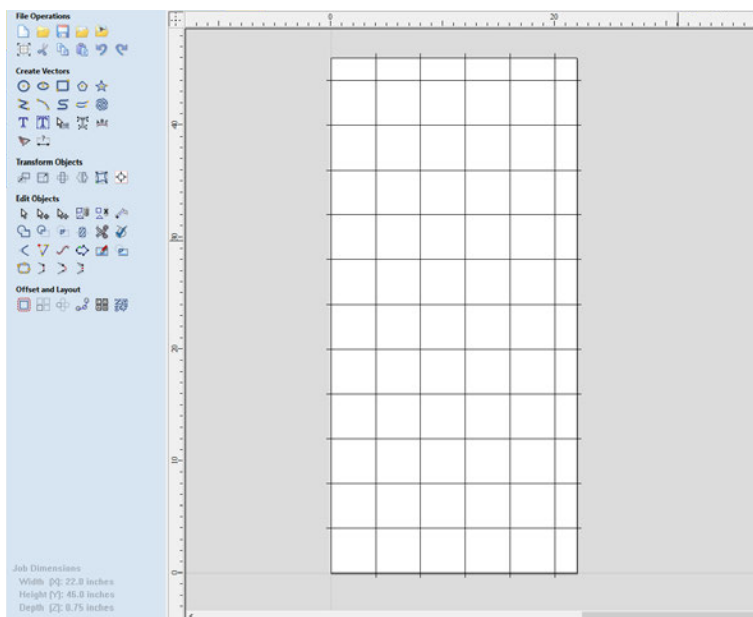

Fig 13a - Spoilboard CAD
- 13.1. In your CAD/CAM software draw a rectangle the size of your spoilboard and create a set of horizontal and vertical lines 4" (100mm) apart across the rectangle and extending 3/8" (9mm) beyond the border as shown. The last line in each direction should not be less than 2" (50mm) from the edge and should not interfere with the mounting holes drilled in Step 12. (Fig 13a)